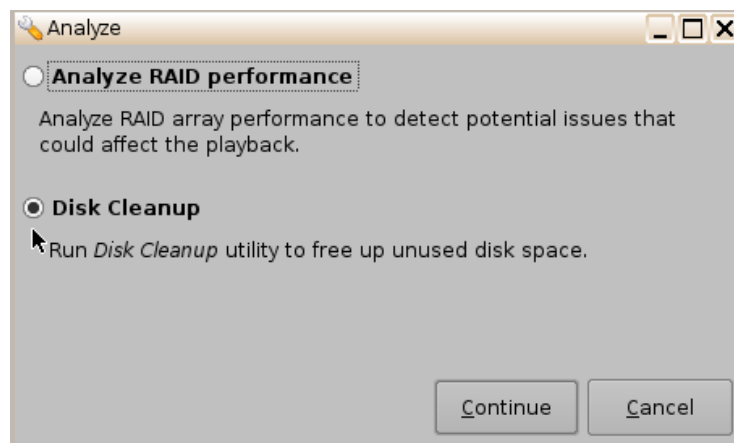

Figure 16: Disk Cleanup Utility
- Click the Analyze button and the following window will appear (Figure 16):